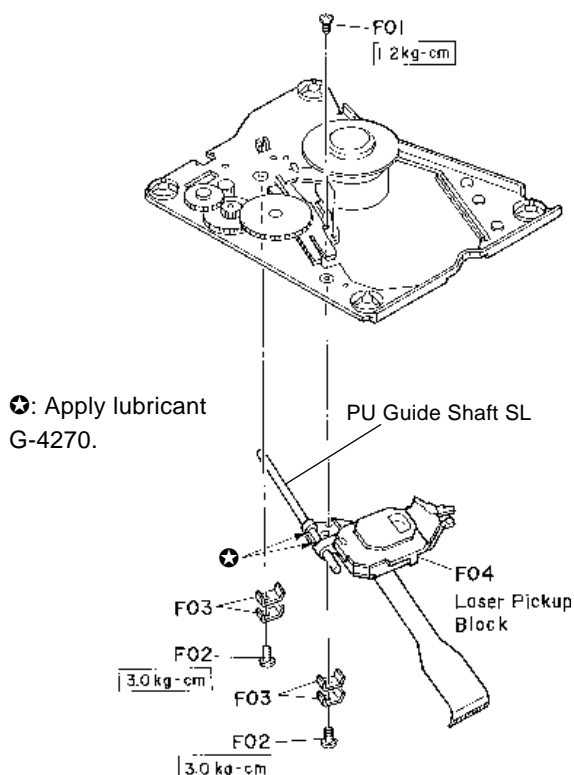
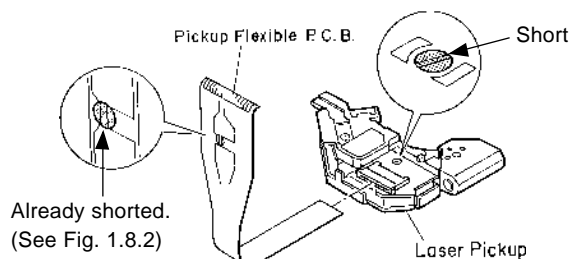

Fig. 1.8.3
Fig. 1.8.4
- (1) Remove the Traverse Mecha Ass'y. Refer to item 1.8.1.
- (2) Remove screws F01 (M1.7x4 + Pan, 2 pcs.) and F02 (M2.6x3.5 + Pan, 2 pcs.), and then disassemble F04 (Laser Pickup Block). Refer to Fig. 1.8.3.
- (3) Pull out the PU Guide Shaft SL from the Laser Pickup Block.
- (4) Before disconnecting the Pickup Flexible P.C.B. from the Laser Pickup, short the laser diode shorting lands on the bottom of the Laser Pickup. Refer to Fig. 1.8.4.
- (5) Disconnect the Pickup Flexible P.C.B. from the Laser Pickup.
- (1) Connect the Pickup Flexible P.C.B. to the new Laser Pickup. Refer to Fig. 1.8.4.
- (2) Open the laser diode shorting lands on the bottom of the Laser Pickup.
- (3) Insert the PU Guide Shaft SL into the Laser Pickup.
- (4) Assemble F04 (Laser Pickup Block) with F03 (4 pcs.) by tightening screws F02 (2 pcs.) with a torque of 3.0 kg-cm.
- (5) Assemble F04 (Laser Pickup Block) with screws F01 (2 pcs.) with a torque of 1.2 kg-cm. Refer to Fig. 1.8.3.